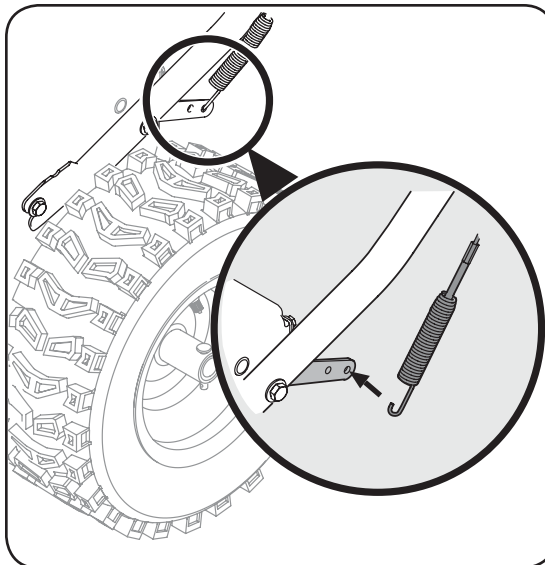

Figure 3-12
- Loosen the Nylock nut on the drive control cable and unthread the cable one full turn. See Figure 3-12.
- To readjust the control cable, unhook the spring (found on the end of the auger cable) from the auger actuator bracket. See Figure 3-12.